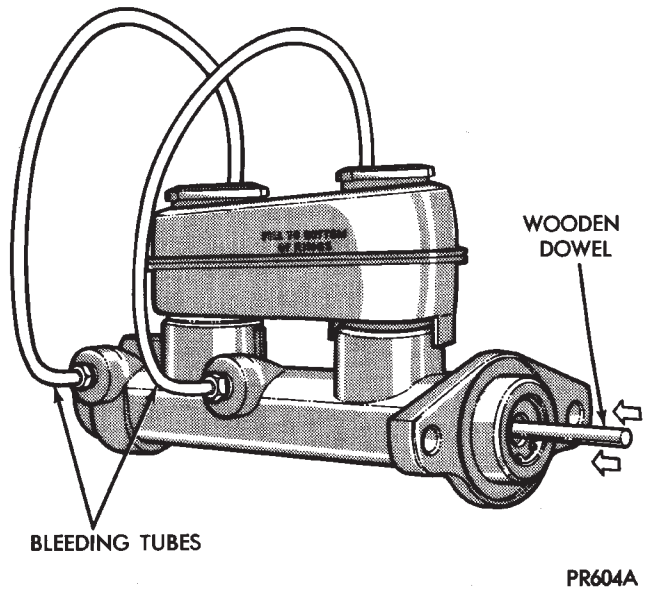

Fig. 5 Bleeding Master
(1) Clamp master cylinder in vise and attach Bleeding Tubes, Special Tool C-4546 (Fig. 5).
(2) Fill both reservoirs to the appropriate full mark, with approved brake fluid.
(3) Depress push rod slowly and then allow pistons to return. Repeat several times until all air bubbles are expelled (Fig. 5).
(4) Remove bleeding tubes from master cylinder. Plug outlet ports on master cylinder and install caps on fluid reservoir.
(5) Remove master cylinder from vise and install master cylinder back on the power brake unit.